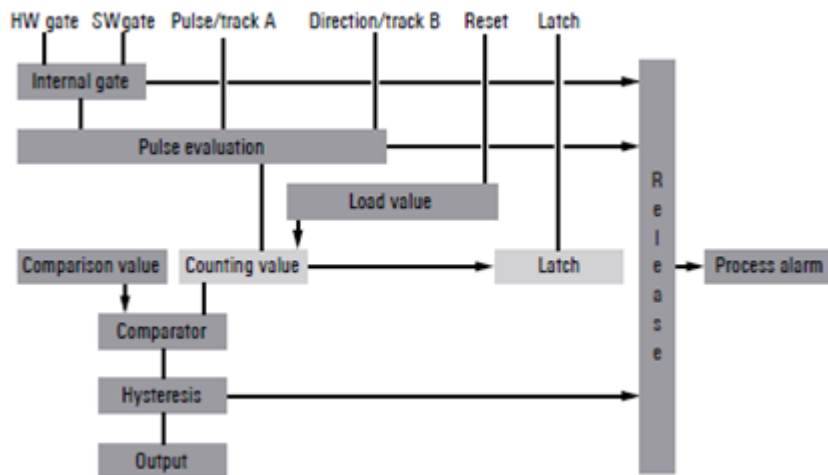

Figure 96: Additional Counter Functions
- **Hysteresis:** reduces frequent switching of the output and/ or excessive triggering of process alarms, e.g. when the value of a sensor signal fluctuates around the comparison value. Figure 96 illustrates how counting behavior is affected by the additional features. These additional features are explained in the following pages.